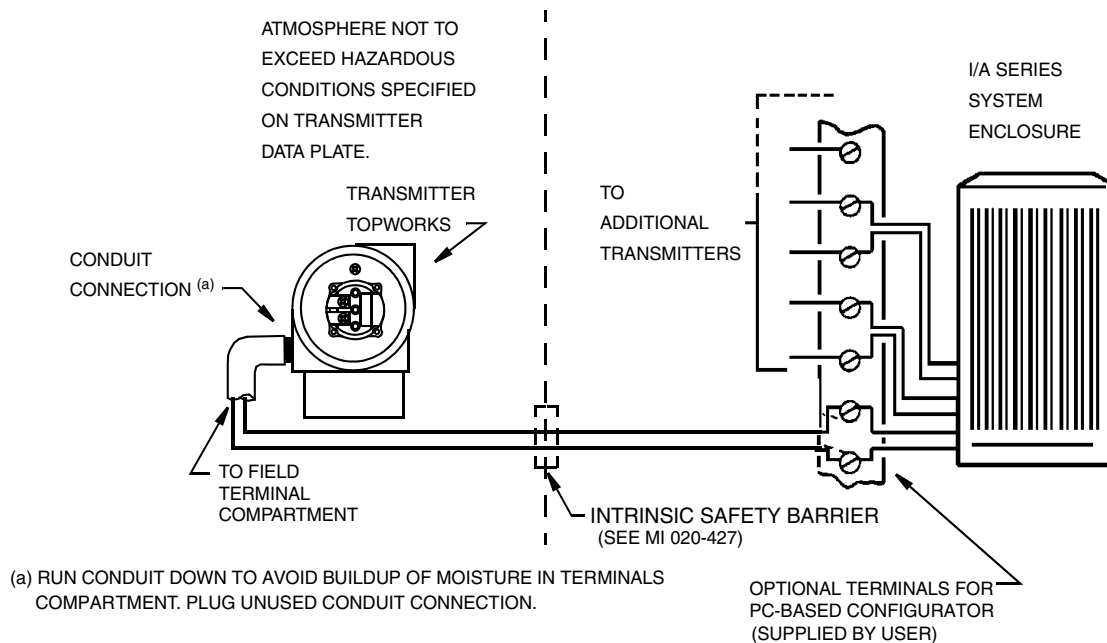

Figure 41. Typical Transmitter Wiring to an I/A Series System
2. Run signal wires (0.50 mm² or 20 AWG, typical) through one of the transmitter conduit connections as shown in Figure 41. Use twisted pair to protect the digital output and/or remote communications from electrical noise. Screened (shielded) cable may be required in some locations.